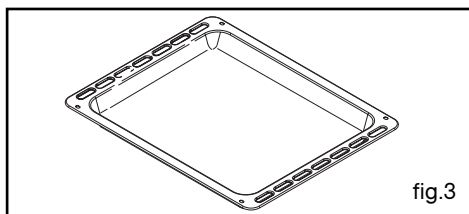

fig.3
• **Plat lèchefrite multi-usages fig.3**